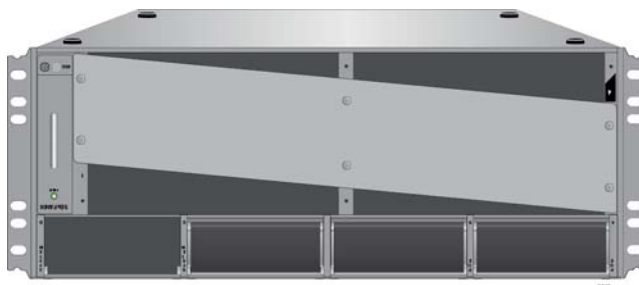

Figure 37. Turning the Chassis Upside Down
1. Place the unit upside down on a level, secure surface, as shown in Figure 37 on page 96.